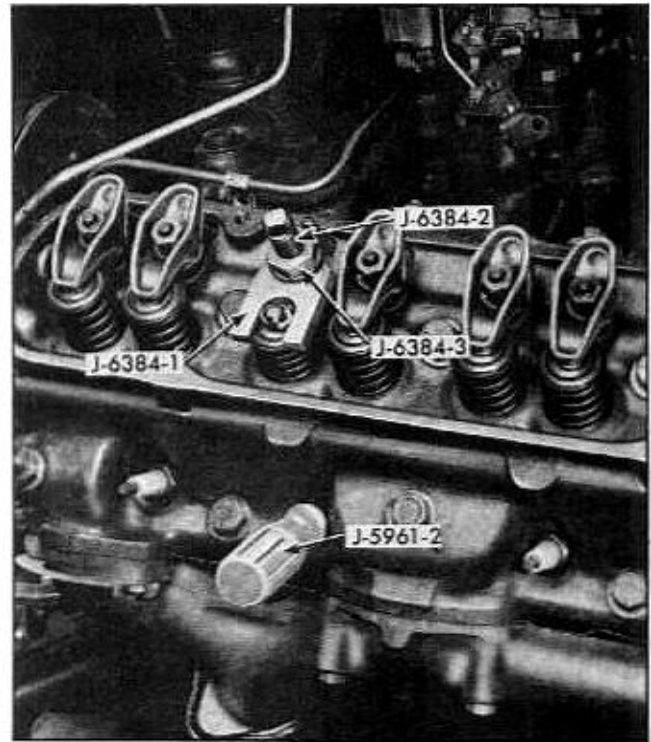

Fig. 6-17 Valve Spring Compressed
2. After removing rocker arm, thread valve spring compressor stud J-6382-2 on rocker arm stud and compress valve spring using compressor J-6384-1 and nut J-6384-3 while holding valve up with Valve Holder J-5961-2 (Fig. 6-17). Remove valve spring retainer cup locks and then remove valve spring compressor, valve spring retainer cup and intake valve stem seal.